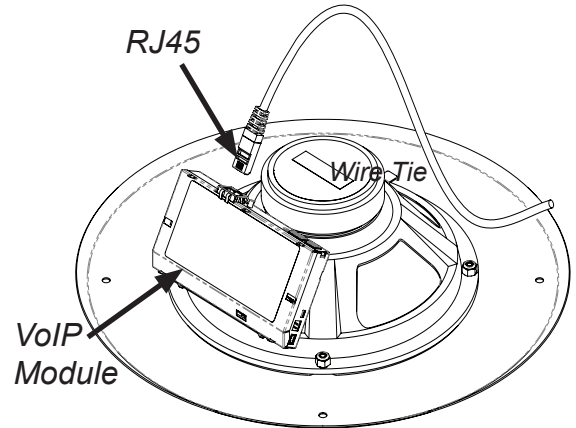

Figure 3
4. Using the 4 supplied screws, attach the NQ-S1801CT to the TB8 using the 4 clips in the corners of the opening on the TB8 as nuts. To complete the Speaker Connection, see STEP 6: Figure 3.
6. Make the electrical connections using Category 5 or higher Ethernet cable with an RJ-45 connector. It is recommended to use shielded Category 5 or higher Ethernet cable (Figure 3).